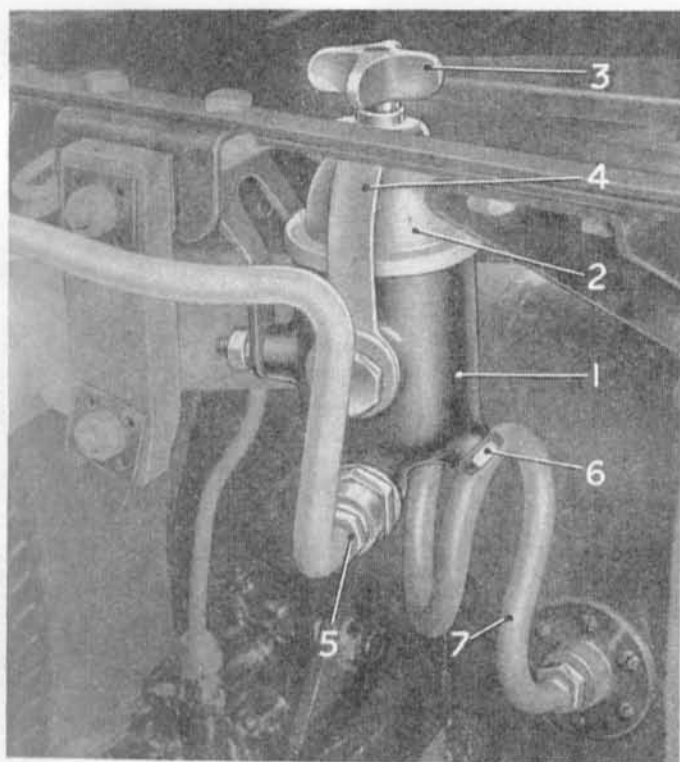

Fig. 12.—REAR FILTER.
A pipe is arranged along the right-hand side frame member conveying fuel from the tank to the pumps. The pipe is seen at (4). A filter is provided on this pipe line, being located on the frame cross-member immediately in front of the tank, as shown in Fig. 12.
The rear filter, shown in Fig. 12, is provided with two circular gauzes located above a large settling sump. Fuel passes upwards through these gauzes, and dirt settles on their lower faces and in the sump.
When refitting the cover, care must be taken that the cork washer is sound, and properly in position, and the nut (3, Fig. 12) tightly screwed up. Any leaks on this—the suction side of the pumps—although they may not be apparent by leakage of fuel, will impair the proper functioning of the pumps by admitting air.